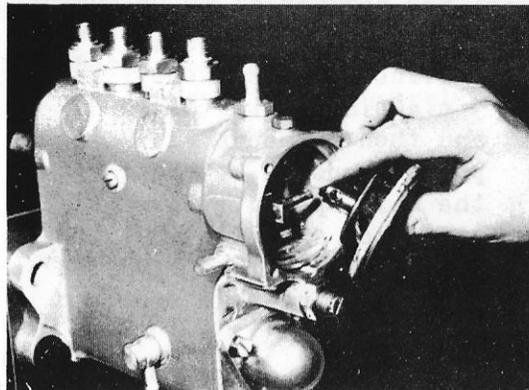

Fig. 9-31
- 2) Remove the diaphragm from the control rack pin: For removing the diaphragm, the split pin and washer should be first removed and the diaphragm dismantled with the Angleich spring, pushrod and adjusting shim held with finger as illustrated in photograph 9-31 to keep them from missing. (See Fig. 9-31)